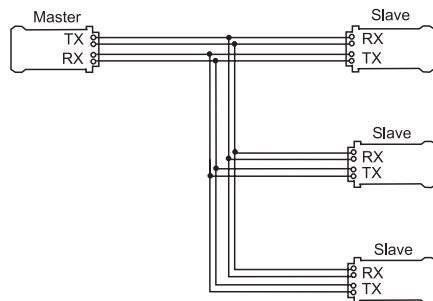

Figure 3. Multidrop Mode – 4-wire
- 12b. Connect the line terminal as shown in *Figure 3*.